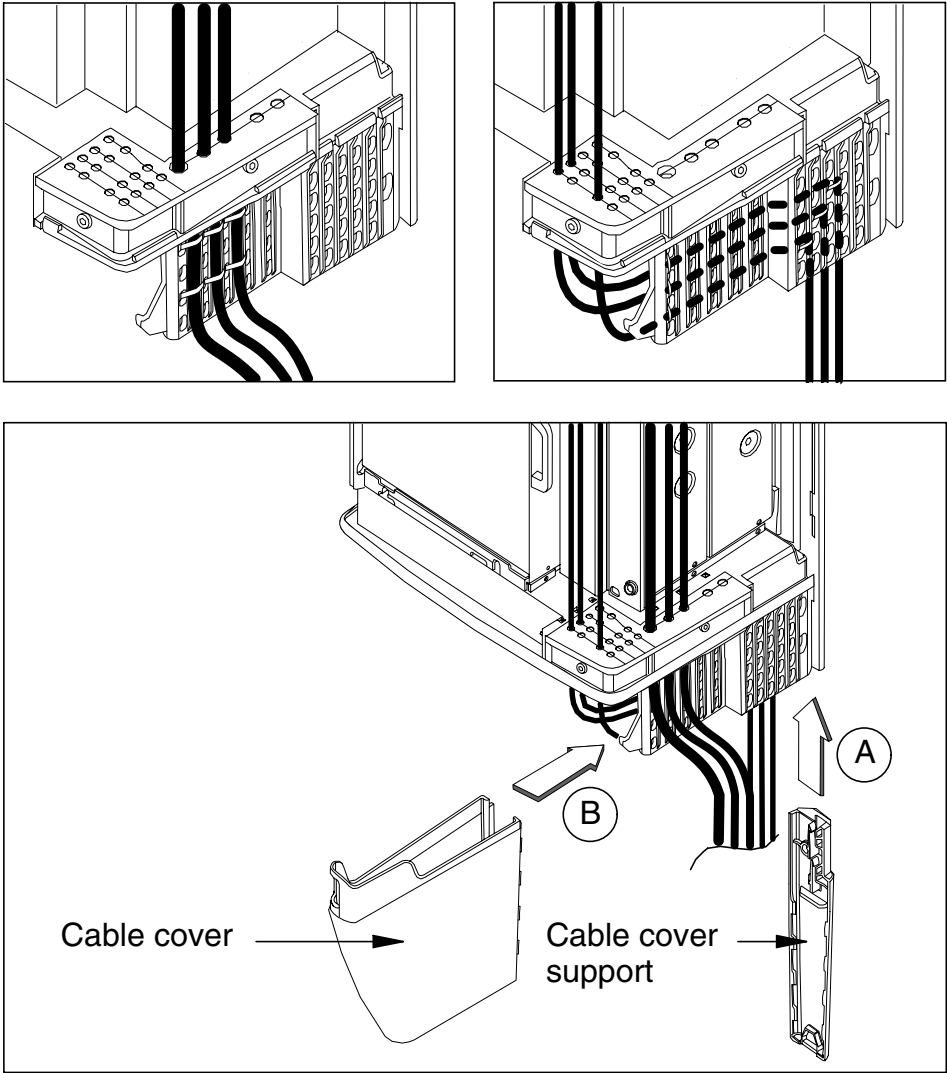

Figure 26. Routing the cables and closing the cable cover
4. Route the antenna feeder cables and power supply cable to the front of the perforated plastic panel (see [1] in Figure 26). Fix the cables to the perforated panel with cable ties. Use side-cutting pliers to cut off the extruding parts of the cable ties.
5. Route the transmission cables, the grounding cable and the cables coming from the interface unit behind the perforated plastic panel at the lower edge of the BTS (see [2] in Figure 26). Fix the cables to the perforated panel with at least two cable ties. Use side-cutting pliers to cut off the extruding parts of the cable ties.
6. Attach the cable cover support on the grips at the far end of the perforated panel (see [A] in Figure 26).
8. Place the cable cover onto the hook at the near end of the perforated panel. Align it to the recesses on the cable cover support and slide it downwards until it locks to the cable cover support (see [B] in Figure 26).